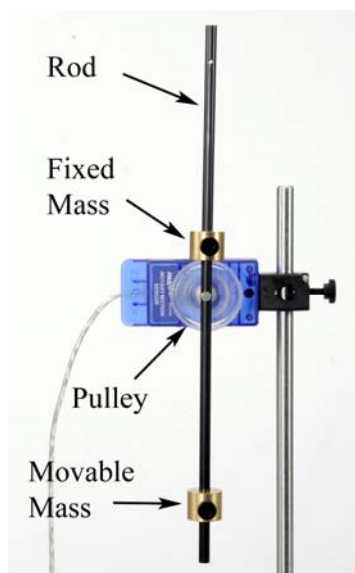

Figure 2: Physical Pendulum
1. Place the brass masses on the black rod as shown in Figure 2. The upper mass should be up against the clear pulley, and is never changed during the lab.